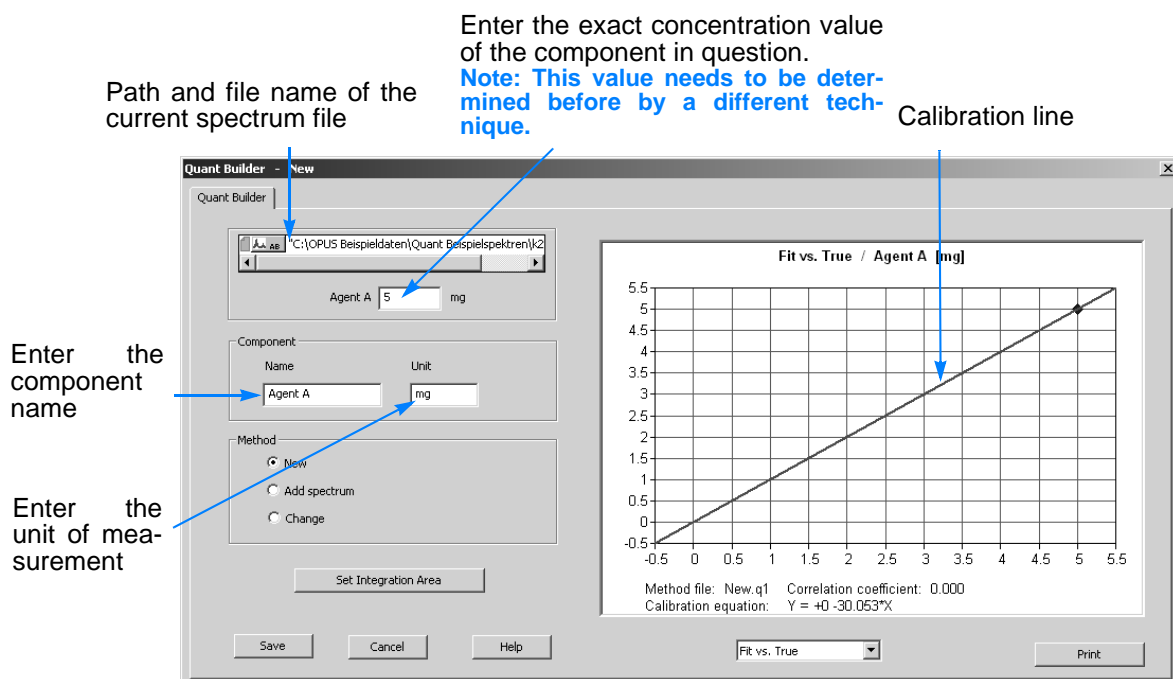

Figure 62: Dialog Window Quant Builder
- 2 Click on the *Evaluate* tab in the OPUS wizard, select the option *Quant Builder* in the drop-down list and click on the *Go* button. Thereupon, the *Quant Builder - New* dialog window opens (see figure 62). The dialog window already includes the path and the file name of the currently loaded spectrum file.
Already at this stage (i.e. on the basis of one calibration spectrum and its corresponding concentration value), OPUS calculates a calibration line¹ (see figure 62). In the further course of the QUANT method setup, this calibration line will be improved by adding the data of the other calibration samples.